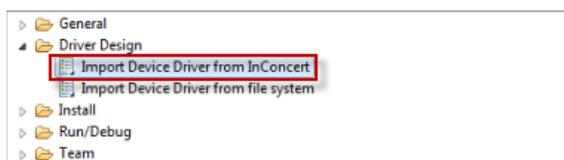

FIG. 24 Import Wizard: Select dialog - Import Device Driver From InConcert
2. In the *Select an import source* window, select **Driver Design > Import Device Driver From InConcert** (FIG. 24):